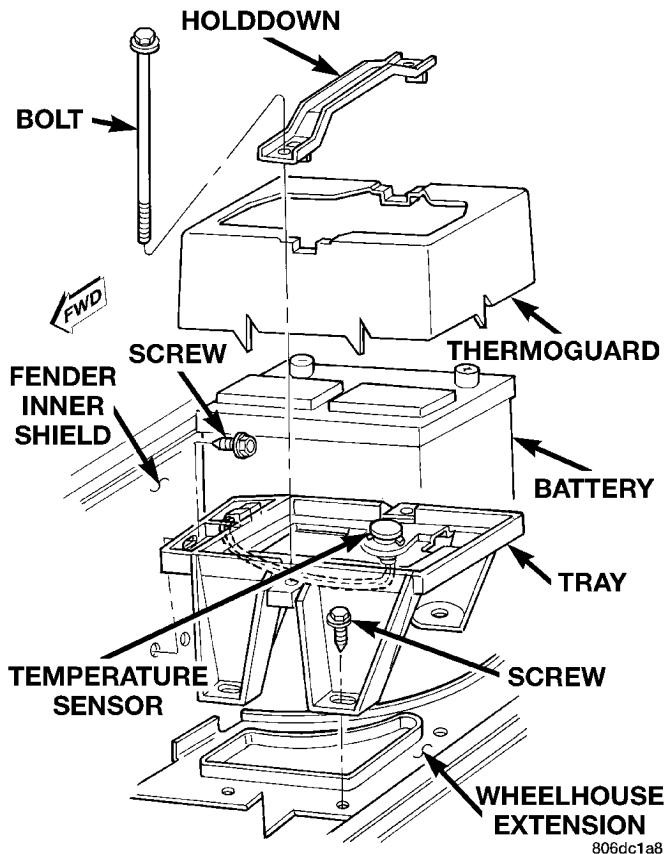

Fig. 17 Battery Holddowns
(4) Remove the battery holddowns and remove the battery from the vehicle (Fig. 17).